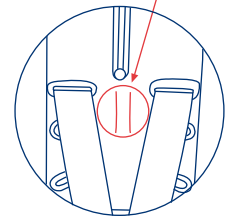
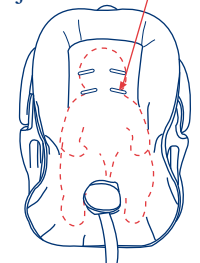

Fig. 31-1
Fig. 31-2
- 12.1.4) Remove the Safety Seat from the Base and rotate the Carry Handle to the non rocking position. Place your child in the Safety Seat such that your child's bottom is all the way to the rear and bottom of the seat. (See Fig. 32-1) Rotate the knob behind the seat back to raise or lower the moving seat back and harness straps. Knob must remain in vertical position after adjustment. (Fig. 31-1) The Harness Straps must be even with or just below the child's shoulders. (Fig. 31-2) **DO NOT** use the Safety Seat with the Harness adjusted above the child's shoulders as the child will not be held securely in a sharp turn, sudden stop, or crash.
The harness straps must be used in the slots that position the straps to be even with or just below your child's shoulders. (See Fig. 31-1) The harness straps are adjusted as follows: